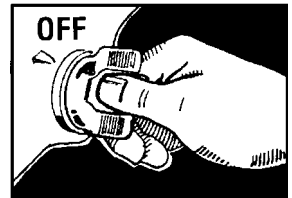

Figure 2 Ignition OFF
1. Turn ignition key OFF, not in the ACCESSORIES position as shown in **Figure 2**. Engine needs to be OFF and all electrical loads must be removed from the battery for proper testing. Refer to the vehicle operator and service manual if loads still exist.